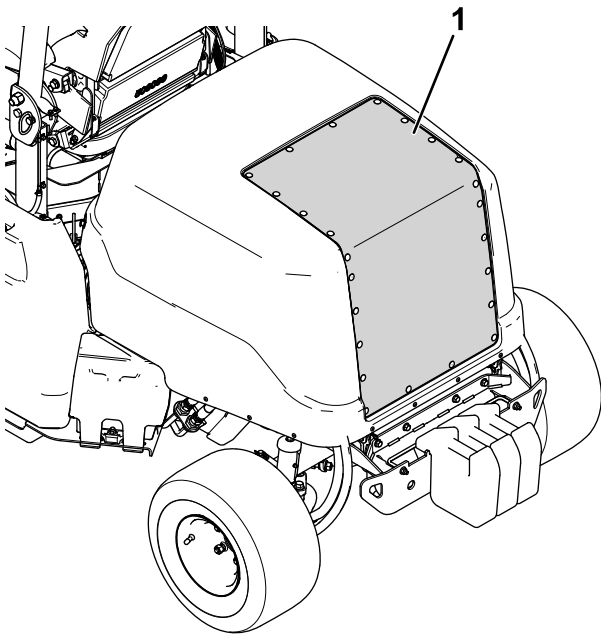

Figure 71
2. Use compressed air to clean the hood screen (shown in Figure 71). Direct the air out from the machine.